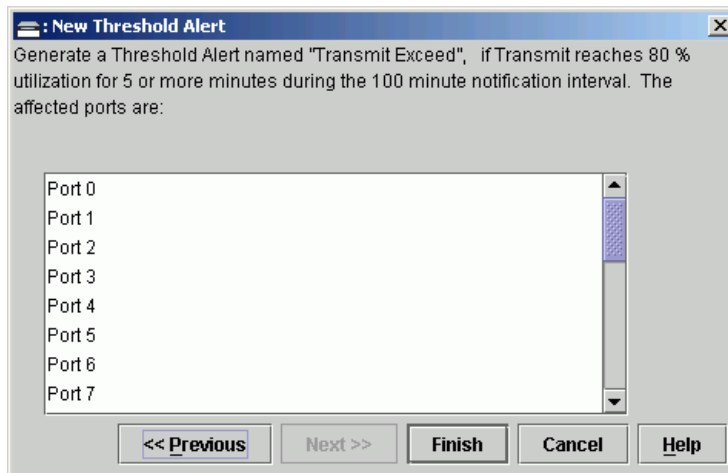

Figure 2-99 New Threshold Alert Dialog Box (Screen 4)
11. Click *Next*. The *New Threshold Alert* dialog box (screen4) displays (Figure 2-99 on page 2-109). This screen appears to provide a summary of the alert configuration. To make changes, move back and forth through the configuration screens by selecting *Previous* or *Next*.